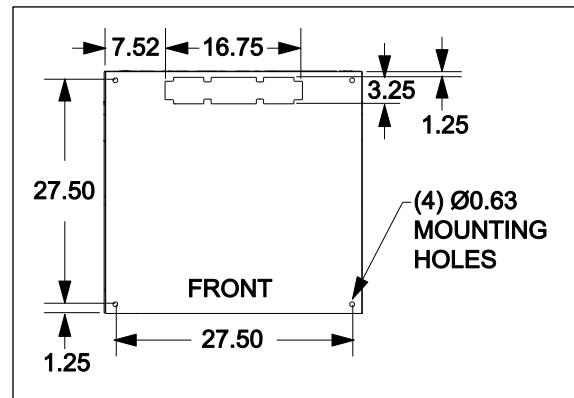

Figure 4
- Figure 4 shows the required conduit openings and mounting hole dimensions for entering/mounting the bottom of the CUBE. Use these dimensions when designing the pad.